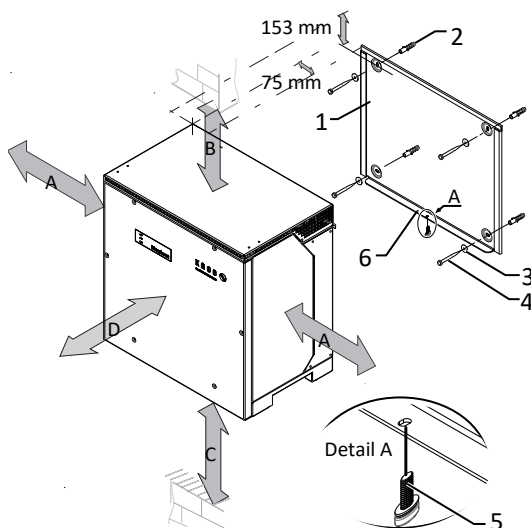

Fig. 16: Minimum clearances for wall mounting
3. Insert the screw provided into the lug of the mount and secure the device to prevent it from being lifted off [X T30 /  2 Nm] [See figure 16: Minimum clearances for wall mounting [► Page 21]].